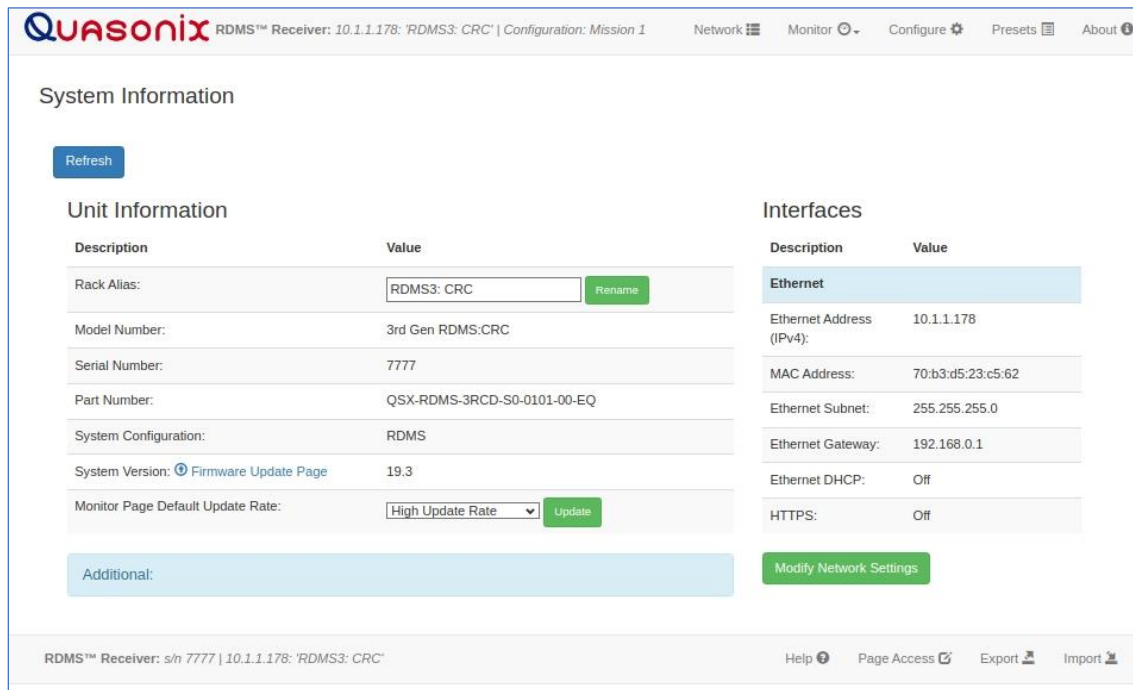

Figure 138: Browser Interface, About
2. Using a web browser, navigate to the About page of the RDMS Browser Interface, as shown in Figure 138.